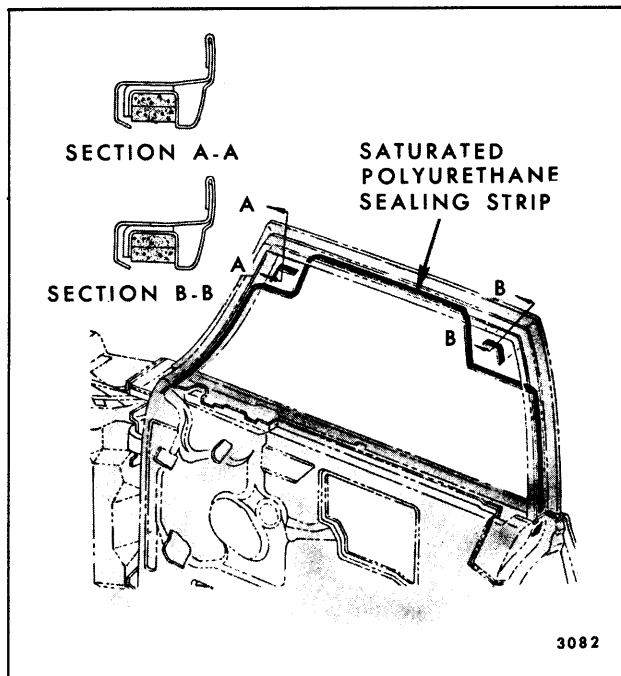

Fig. 6-103—Front Door Window Glass Run Channel Sealing - "B" Closed Styles
**NOTE:** Prior to installation, inspect run channel clips and saturated polyurethane foam sealing strips in door upper frame (Figure 6-103). Reform distorted clips to insure adequate retention.